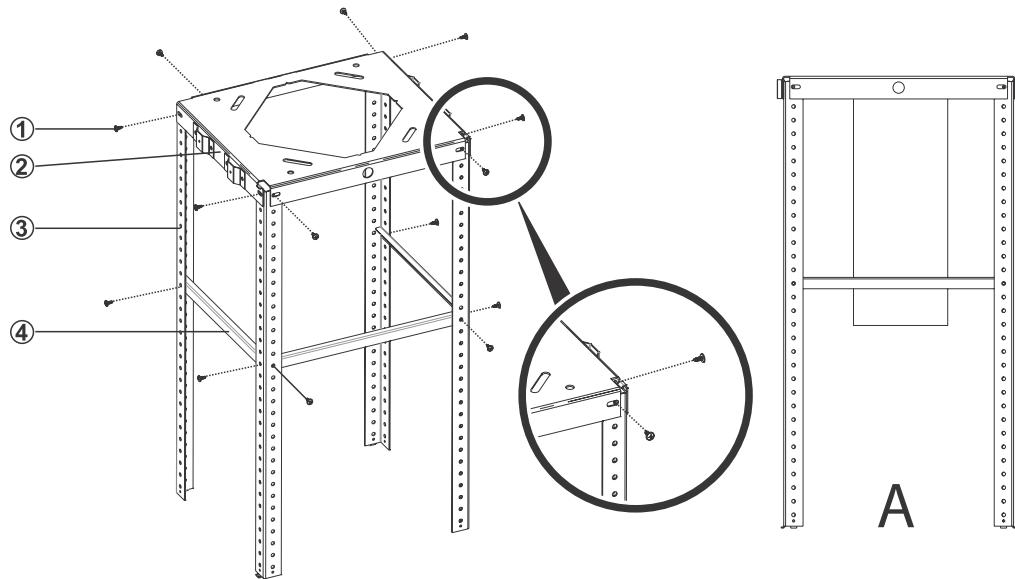

Fig. 11
- 1.** ➔ Install product hanging bars (3) to ceiling hanging plate (2) with 8 pcs. 3.5 x 9.5 r phillips cylinder head screw (1) (Fig. 11).
- 2.** ➔ Install product hanging bars to balance hanging bar balancing components (4) with 6 pcs. 3.5 x 9.5 rysb screw (1) (Fig. 11).
- 3.** ➔ Make the air connections of the product (Fig. 11/A).